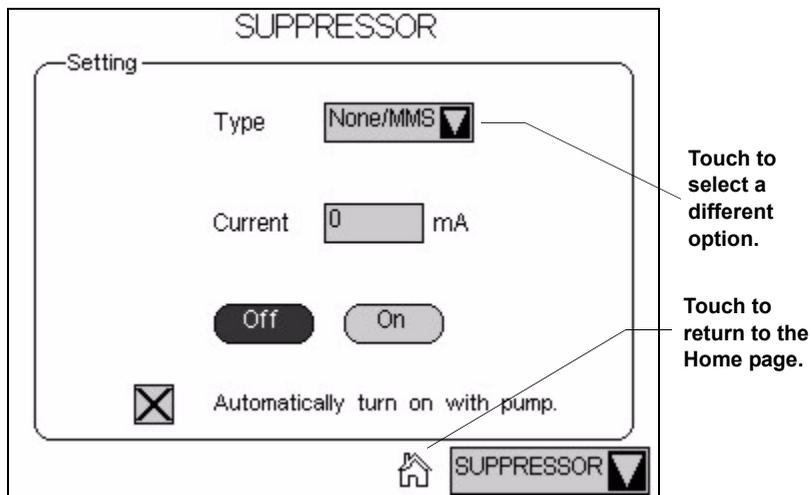

Figure 2-5. Suppressor Page
- Touching a page name on the menu of pages displays the selected page. For example, touching **SUPPRESSOR** displays the **SUPPRESSOR** page (see Figure 2-5). See Appendix C for details about each touch screen page.